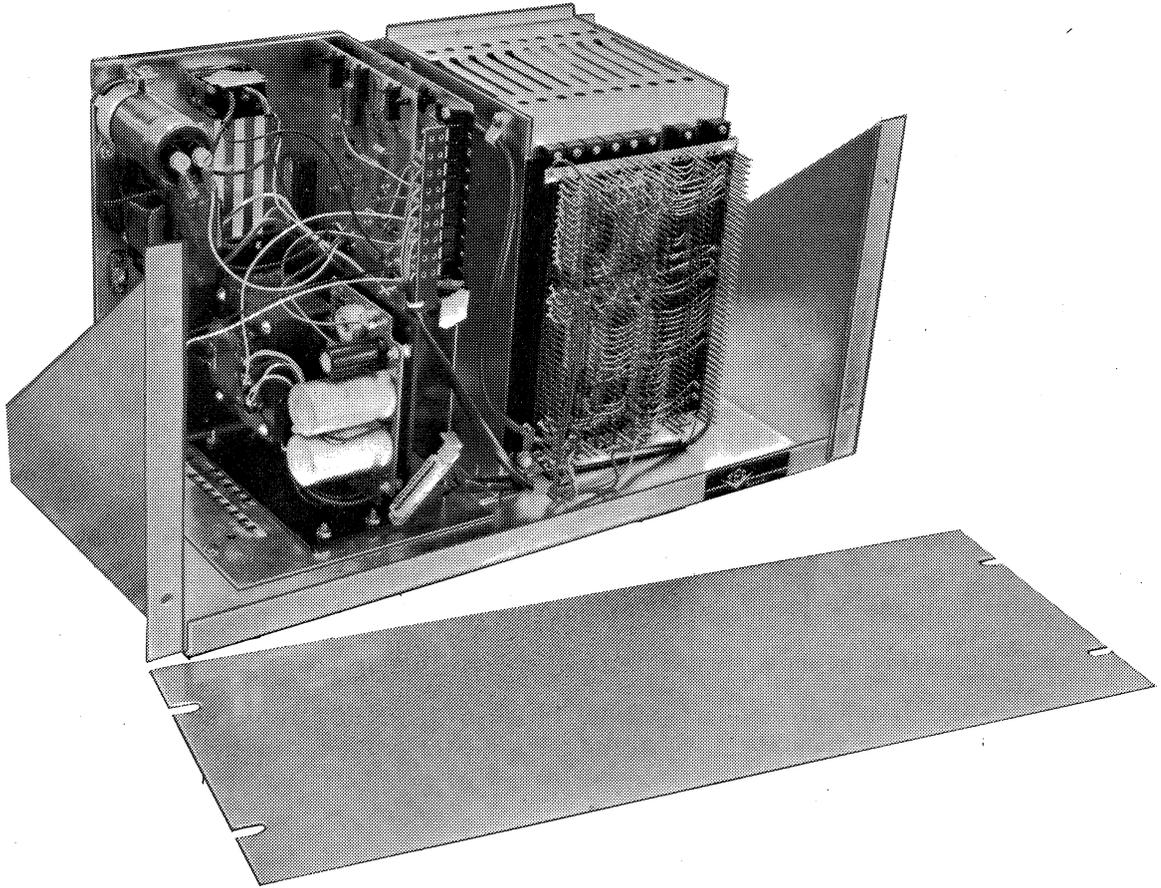

FIGURE 4 RACK MOUNT MODEL WITHOUT MONITOR
- d. Rack mount (for standard 19-inch rack) for use with 10-1/2" high front panel. Accomodates logic and power supplies only. Designed for use with remote monitors. See Figures 4 and 31.